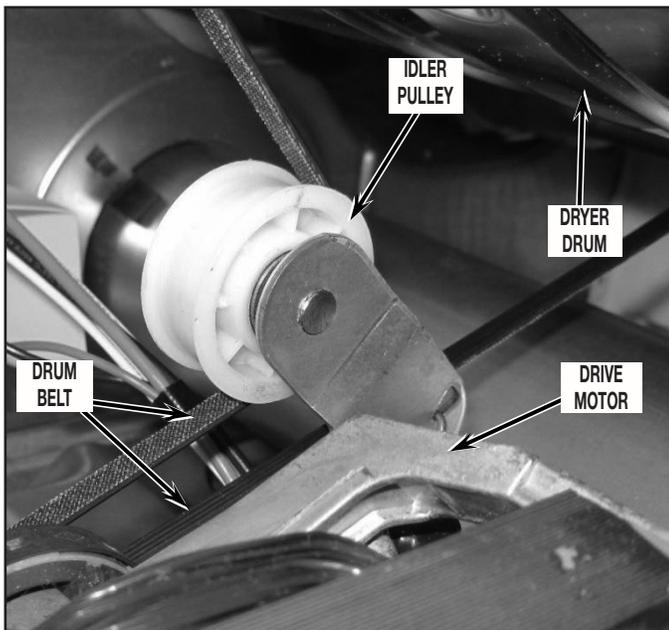

FIGURE 17
21. Remove drum from dryer by first reaching into dryer just under the drum, to back side of drive motor. Grasp idler pulley and lift up to relieve tension from belt and remove belt from motor pulley and idler pulley. Refer to *Figure 17* for belt removal and reassembly.